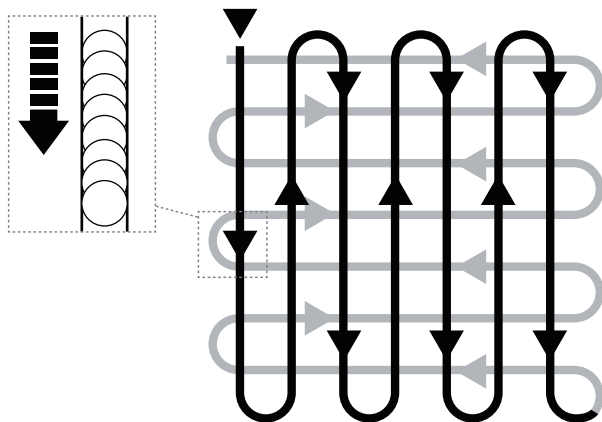

Fig. 12
- > Keep the bonnet flat on the working surface and move it with even speed in a small orbital motion to build a crisscross pattern. Try to overlap each previous pass (Fig. 12).